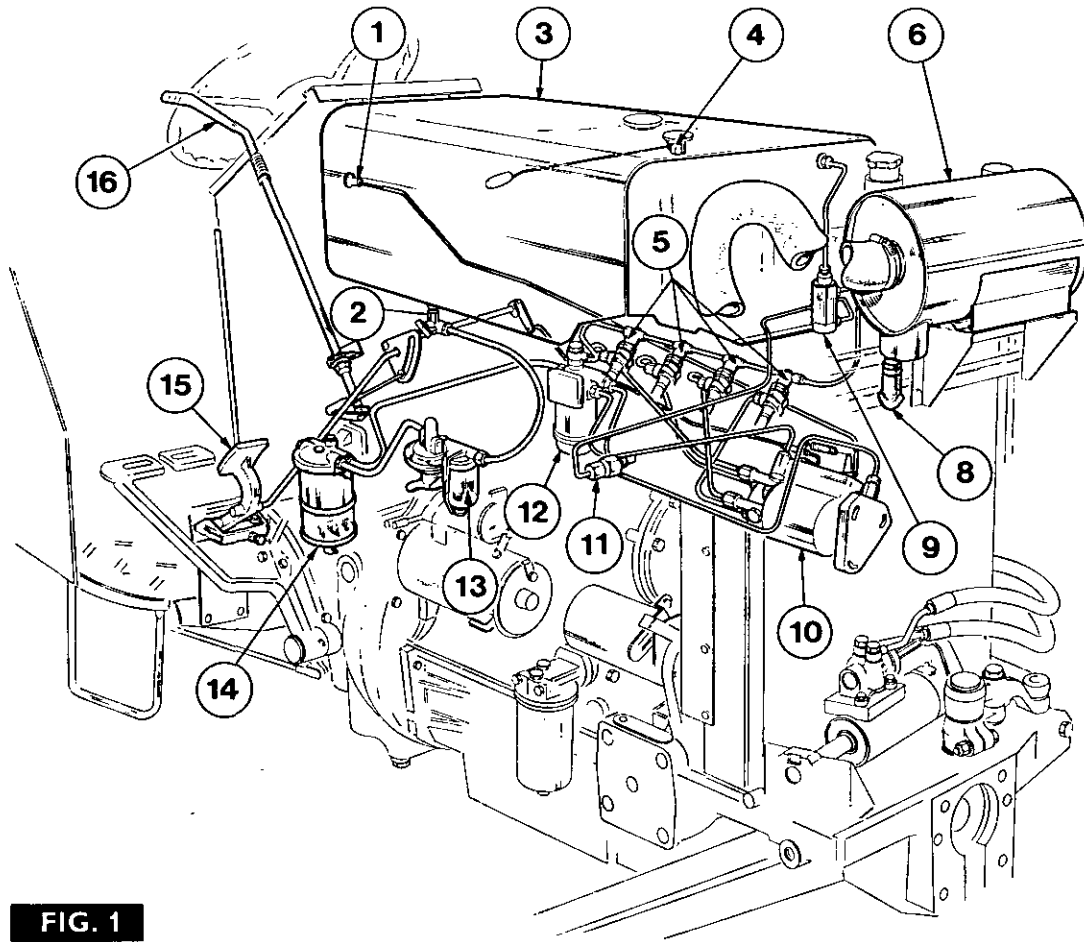

FIG. 1
The components and layout of the fuel and air systems are shown in Fig. 1. Cleanliness must always be observed when servicing any components of the fuel system. Suitable caps or masking tape should be available for blanking off open fuel connections as soon as a union has been removed. Do not use cotton waste or fluffy rags to clean out any part of the fuel system. When working with Diesel equipment,
**KEY TO FIG. 1**